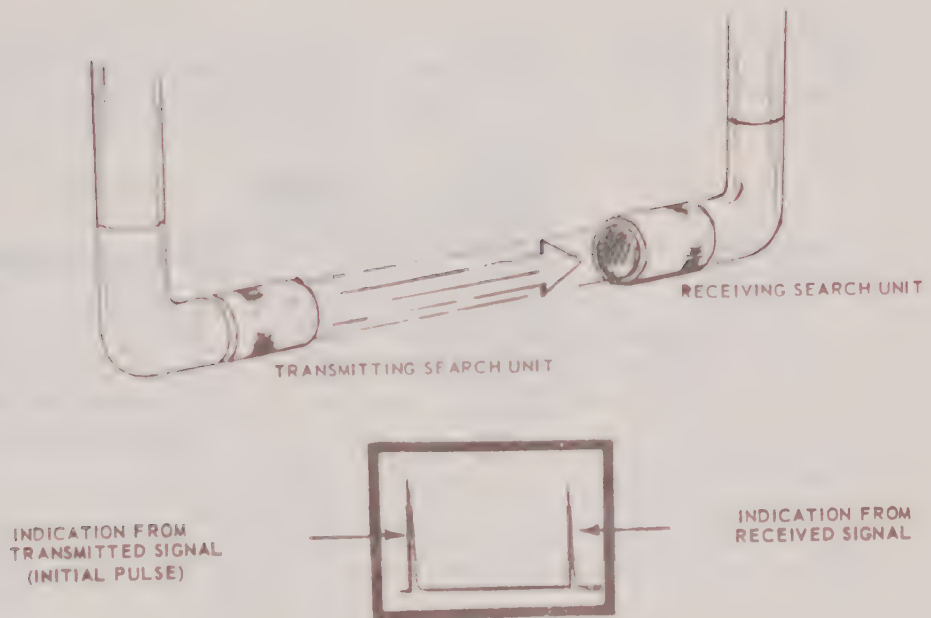
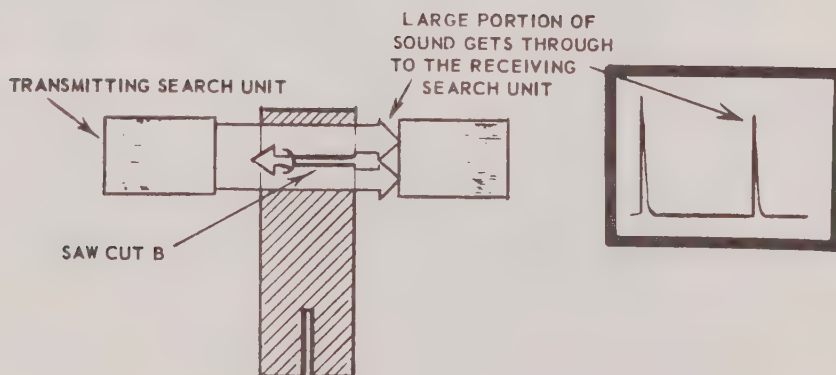

Figure 3-33 Received Signals From Correctly Aligned Search Units
Figure 3-35 Received CRT Waveform
- (1) Search units must be properly aligned so that the sound projected by the transmitting search unit will strike the receiving search unit. The CRT display shows indications from only two sources, the initial pulse and the sound striking the receiving crystal. This received signal must be brought to its optimum point by adjusting the search units until the greatest amount of the transmitted sound reaches the receiving search unit. (Figure 3-33)
- (3) Position search units so that sound is directed at end of saw cut B. (Figure 3-35) Note that although the saw cuts are of equal dimensions, the indication is much larger when sound is directed at saw cut B. The plan view in Figure 3-33 shows only a small portion of the sound being obstructed by the narrow face presented by the saw cut B.